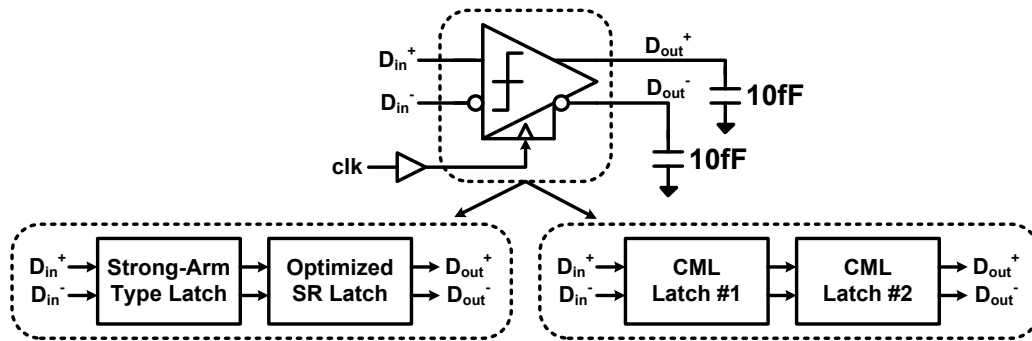
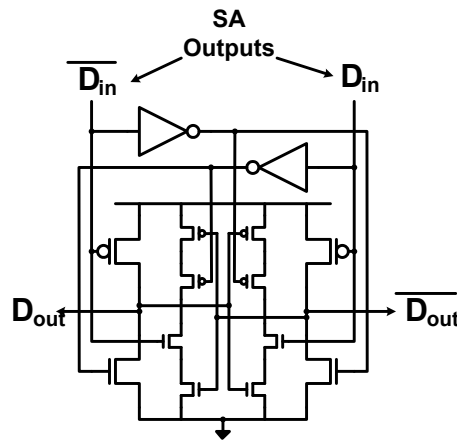

Figure 1: High-Speed Comparator.
Figure 2: Optimized SR-Latch.
3. **Schinkel Low-Voltage Latch.** For an example schematic, refer to Figure 2 in D. Schinkel *et al.*, "A Double-Tail Latch-Type Voltage Sense Amplifier with 18ps Setup+Hold Time," *IEEE International Solid-State Circuits Conference*, Feb. 2007.
4. **Goll Low-Voltage Latch.** For an example schematic, refer to Figure 2 in B. Goll and H. Zimmermann, "A Comparator with Reduced Delay Time in 65-nm CMOS for Supply Voltages Down to 0.65V," *IEEE Transactions on Circuits and Systems - II*, vol. 56, no. 11, Nov. 2009, pp. 810-814.
- a. As shown in Figure 1, for the Strong-Arm type latches (1,3, and 4) follow with the optimized SR-latch shown in Figure 2. For more details on the optimized SR-latch, refer to B. Nikolic *et al.*, "Improved Sense-Amplifier-Based Flip-Flop: Design and Measurements," *IEEE Journal of Solid-State Circuits*, vol. 35, no. 6, June 2000, pp. 876-884. **Note: for architecture (3) you will need to modify this optimized SR-latch – as the sense-amp pre-charges to GND (vs VDD in 1 & 4).**
- b. To realize a CML flip-flop with architecture (2), simply cascade 2 CML latches to realize a master-slave flip-flop.